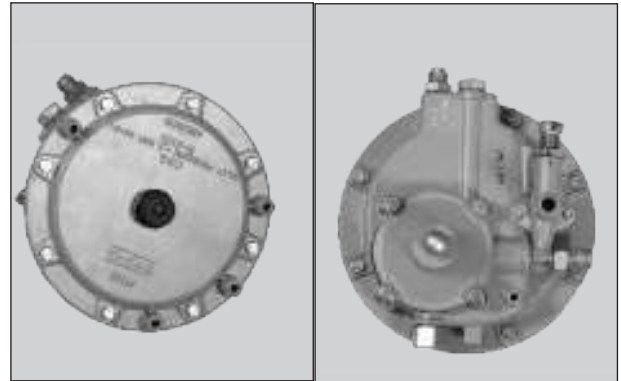

Fig. 8.23
- Loosen and remove 8 nos. Hexagonal screw M5x16 along with 8 nos. Wave spring washer and 7nos.hexagonal nut M5 from bonnet first stage. (Fig. 8.23)